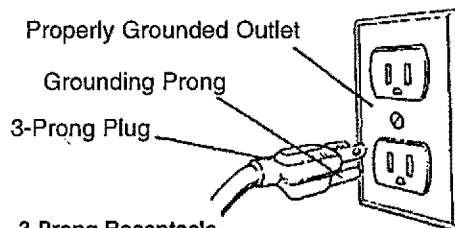

Figure 40 - 3-Prong Receptacle
- This tool is equipped with an approved 3-conductor cord rated at 300V and a 3-prong grounding type plug (see Figure 40) for your protection against shock hazards.
- Grounding plug should be plugged directly into a properly installed and grounded 3-prong grounding-type receptacle, as shown (Figure 40).